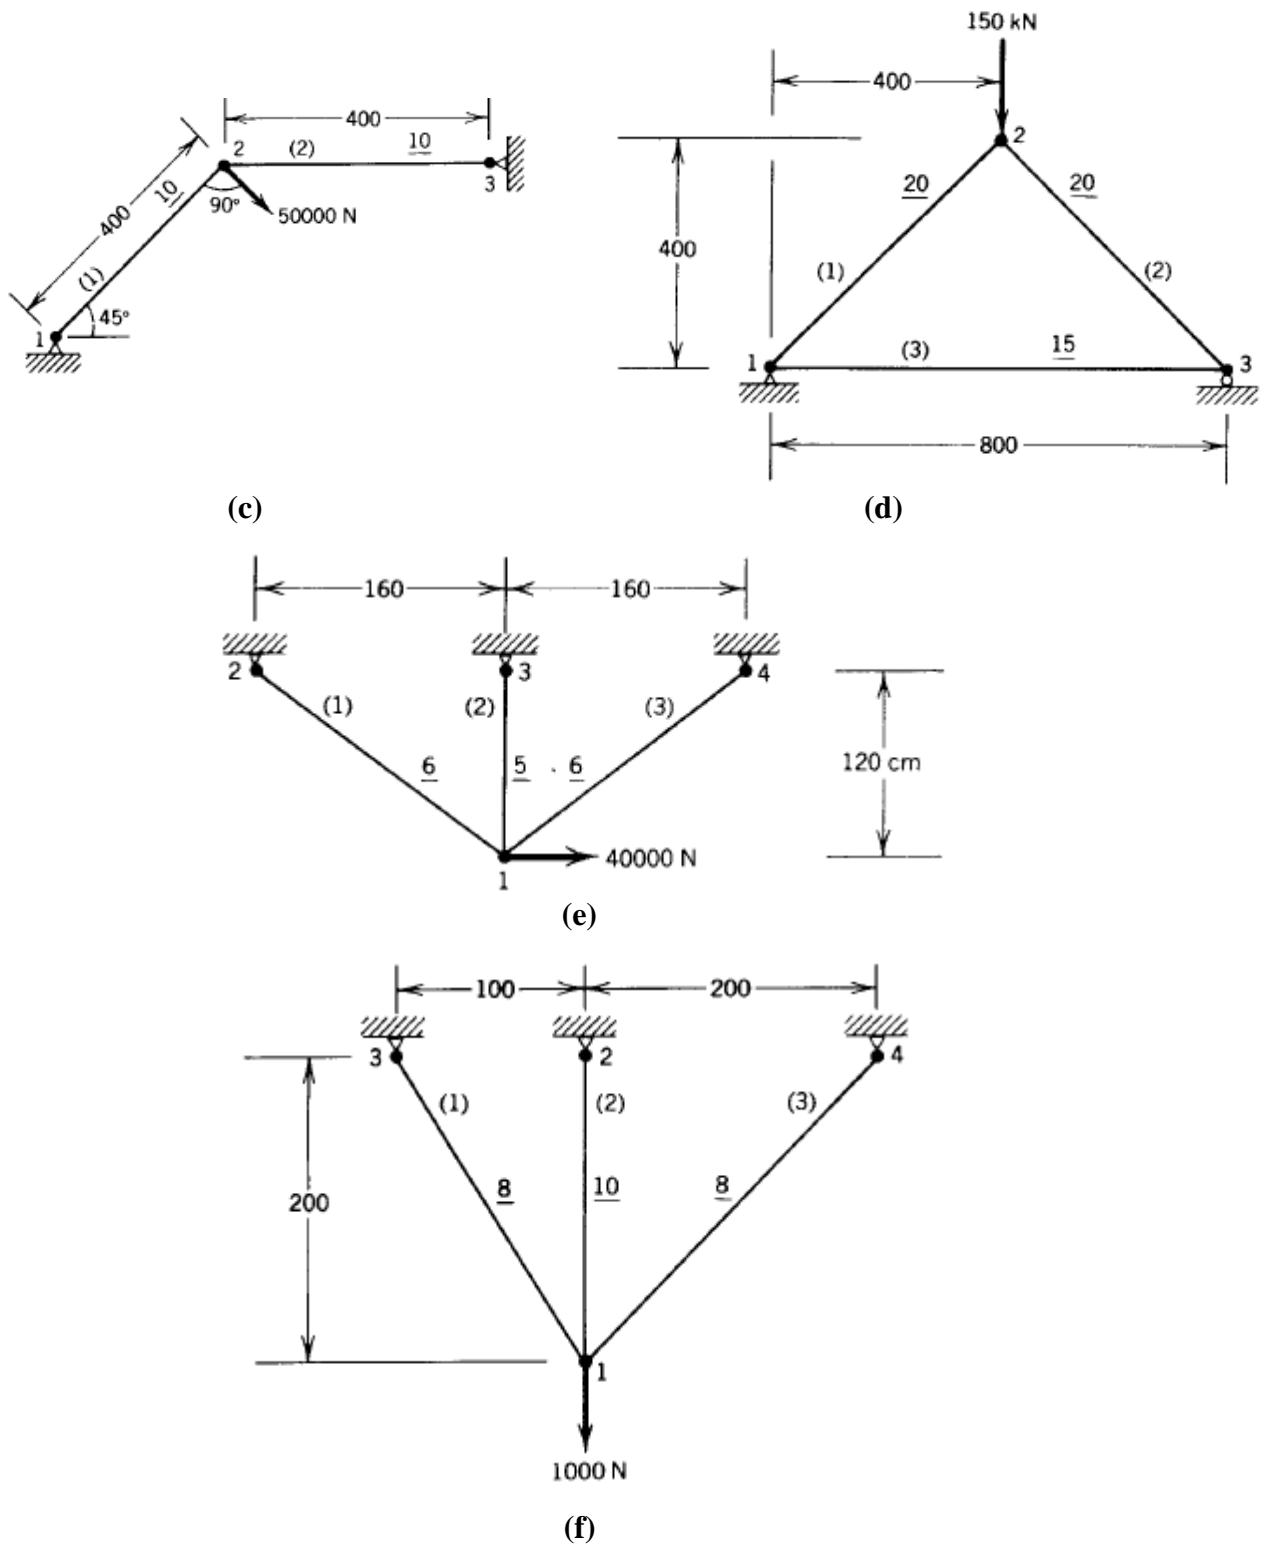

Figure P2.6
6. Each joint of the structural system shown in **Figure P2.6** is a pinned joint. The cross-sectional area of each member in cm² is underlined. Each member is made of steel, $E = 20 \times 10^6$ N/cm². All lengths are given in centimeters. Calculate the unknown nodal displacements and the axial force in each member.